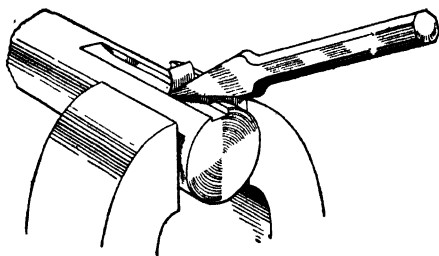

Fig. 45. Chipping Keyseat in Round Shafting
**Chipping.** The work is held in a vise, and the chipping is done by grasping the chisel firmly with the left hand, holding the cutting edge to the work and striking the head of the chisel with the hammer, Fig. 45. The eyes must be kept on the cutting edge of the chisel to